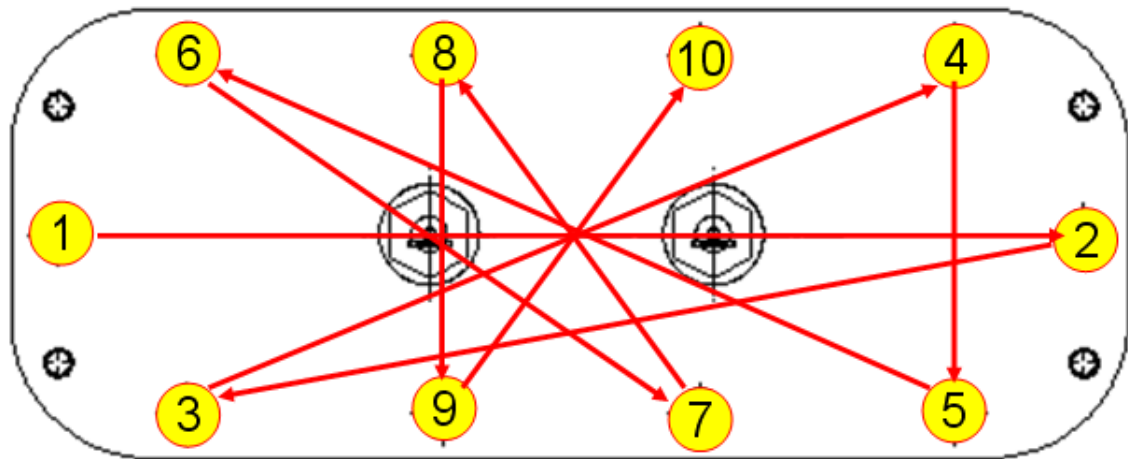

Figure 9 – Cover Plate Torque Sequence
14. Using the 10 Cover Plate M8x25 fasteners, install the Cover Plate. Finger-tighten and then, according to Figure 9 (Cover Plate Torque Sequence), tighten in a crisscross pattern in two (2) stages.